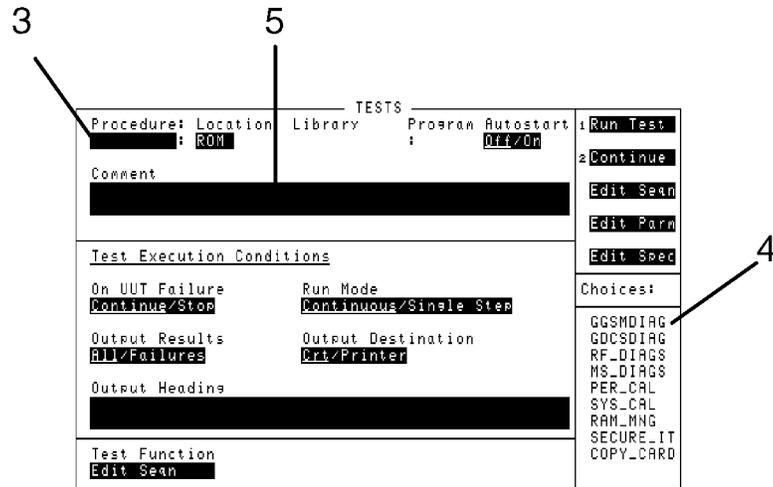

Figure 8-3 Loading a Test Procedure
- 3 Select the **Procedure** field. Refer to item (3), see Figure 8-3 on page 8-13.
- 4 Choose the Test Procedure file that you want to download. Refer to item (4), see Figure 8-3 on page 8-13. (The Test Procedure you select appears in the field (3) area.)
- 5 Read the **Comment** field to ensure that the loaded Test Procedure file is the one you want. Refer to item (5), see Figure 8-3 on page 8-13.